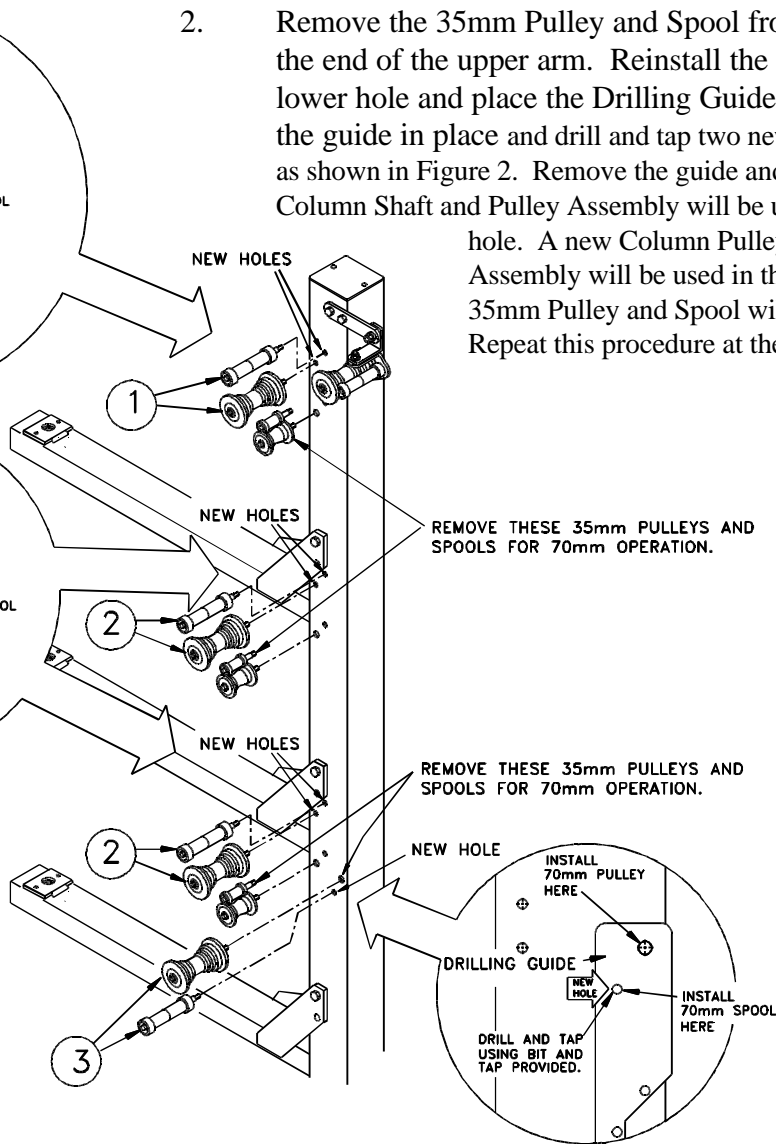

FIGURE 3
3. Remove the top 35mm Pulley and Spool at the location shown in Figure 3. Reinstall the pulley shaft in the upper hole. Place the Drilling Guide over the shaft as shown and clamp in place. Drill and tap a new hole at the guide hole shown. Remove the guide and shaft. A new 70mm Column Shaft & Pulley Assembly will be installed in the upper hole. A new Column Pulley Shaft and Spool Assembly will be installed in the new lower hole.